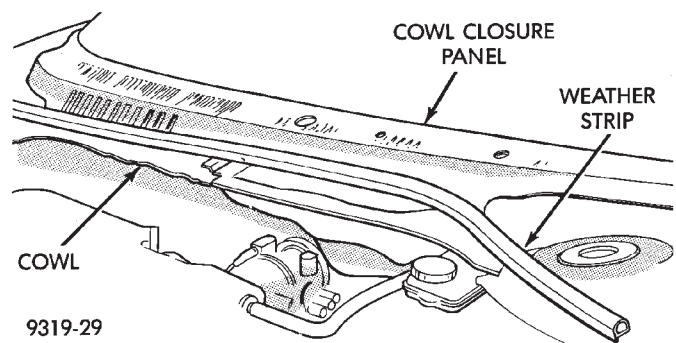

Fig. 23 Cowl Closure Panel Installation
(15) Install cowl closure panel back on top of cowl and windshield wiper module. Install and securely tighten the 6 screws attaching cowl closure to vehicle (Fig. 23). Install weather strip on shock towers and the clips securing cowl closure panel to windshield wiper module.
(16) Install windshield washer hoses on wiper arms first, then install both windshield wiper arms on windshield wiper arm pivots and lock arms in place.